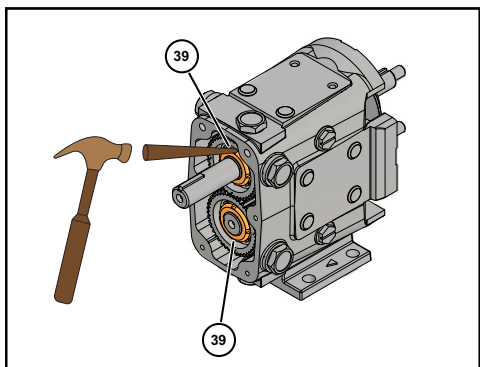

Figure 69 - Bend Lock Tab on Lock washers
7. Bend the locking tab on the lock washers into the locking nut slots, securing the gear locknut into place (Figure 69).